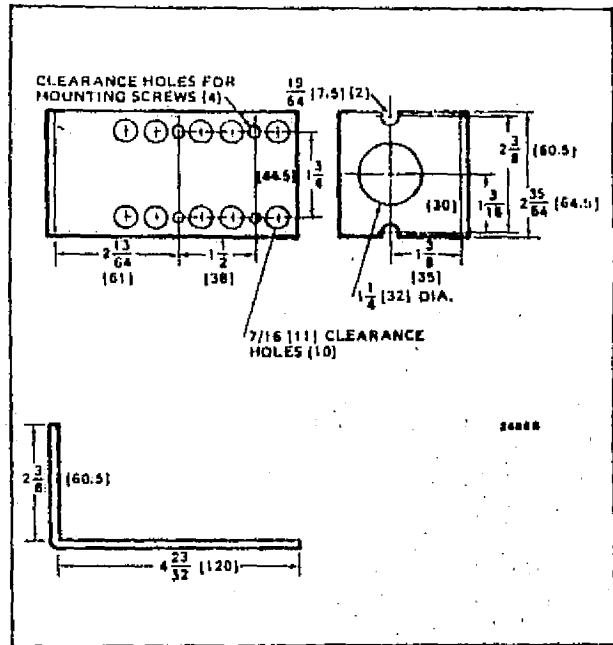

FIG. 3—DIMENSIONS OF 126809 BRACKET, IN INCHES [MILLIMETERS SHOWN IN BRACKETS].
4. 7640JM Bag Assembly - mounting bracket, Part No. 126809, and screws (Figs. 3, 4, and 7).